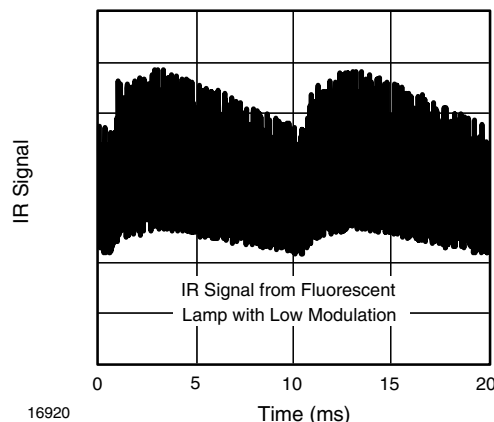

Fig. 13 - IR Signal from Fluorescent Lamp with Low Modulation
- Signals from fluorescent lamps with electronic ballast with high or low modulation (see figure 13 or 14)